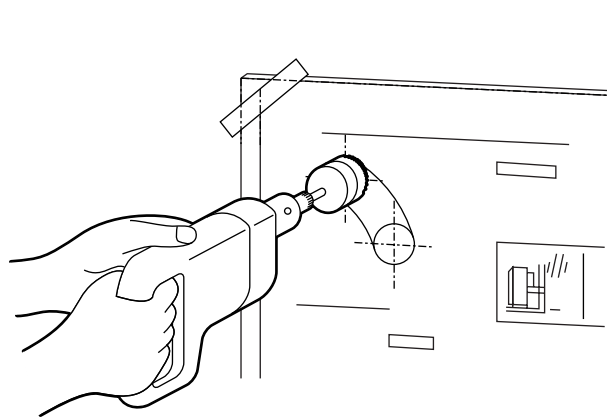
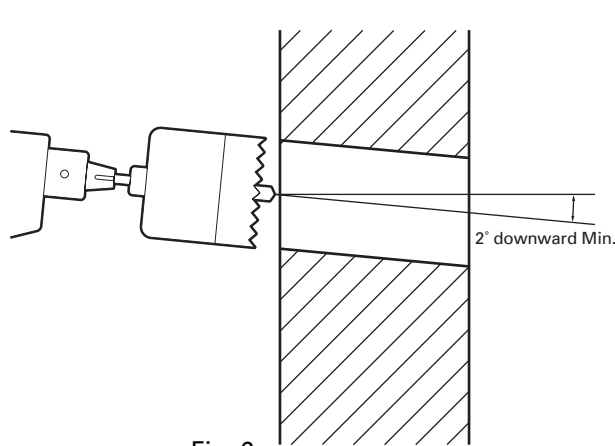

Fig. 5
Fig. 6
- Cut the hole for the flue pipe from inside the room. Use a 2-3/4 to 3" diameter hole saw attached to an electric drill (See Fig. 5). The opening on the inside wall should be slightly higher than the outside opening (approximately 1/4") so that the flue pipe will slope slightly downward (approximately 2 degrees) after it is installed (See Fig. 6). This will enable the draining of condensed moisture from the flue pipe to the outside and prevent rain or snow entering from outside after installation.